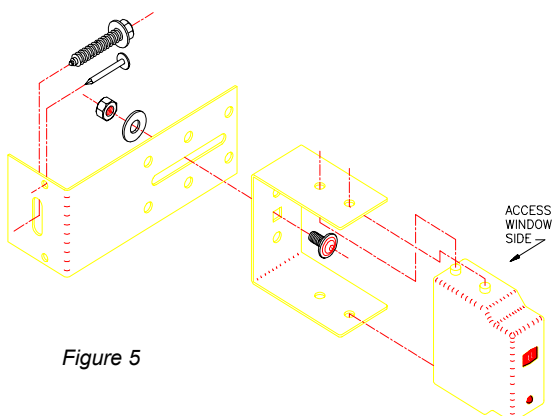

Figure 5
- B. Place the transmitter and receiver units into their respective "U" brackets. See Figure 5.